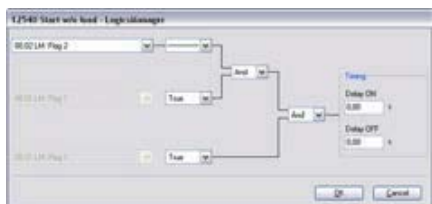

Fig. 200: LogicsManager function "Start without load"
3. ➔ The LogicsManager function "Start without load" (parameter 12540 ↪ p. 311) can be configured as shown in (Fig. 200).